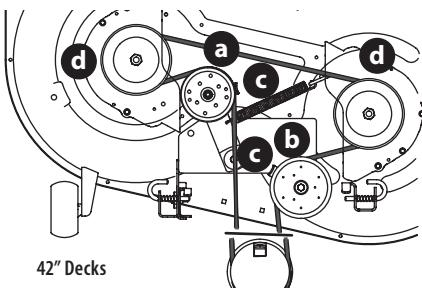
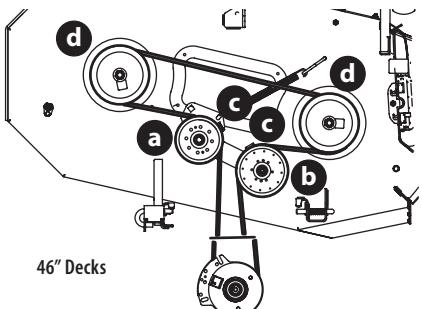
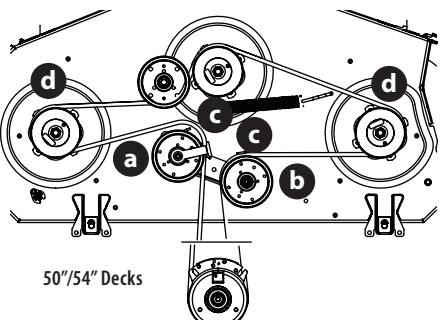
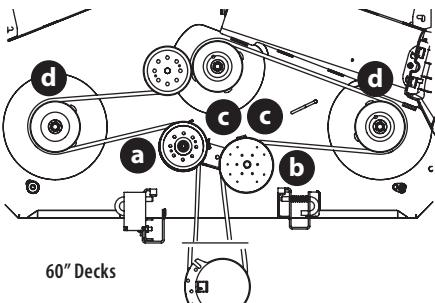

Figure 42
Figure 43
Figure 44
Figure 45
2. Loosen, but do not remove the hardware on the right (a) and left idler pulley (b). Refer to page 30 for 42 inch decks (Figure 42), 46 inch decks (Figure 43), 50 and 54 inch decks (Figure 44) and 60 inch decks (Figure 45).